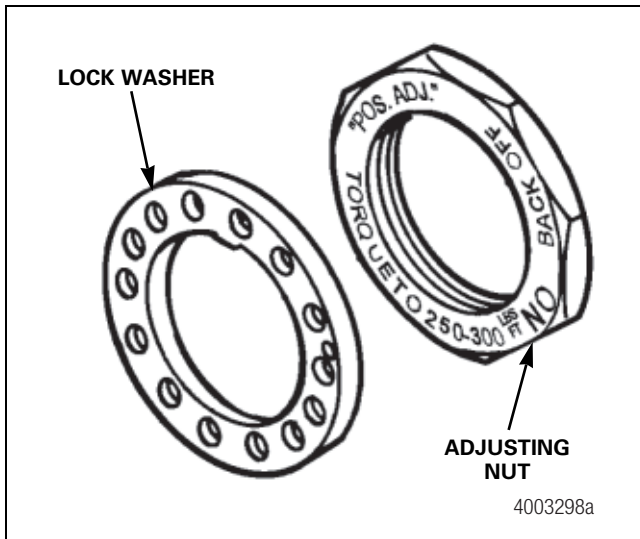

Figure 11.4
2. Install the lock washer. Figure 11.4.